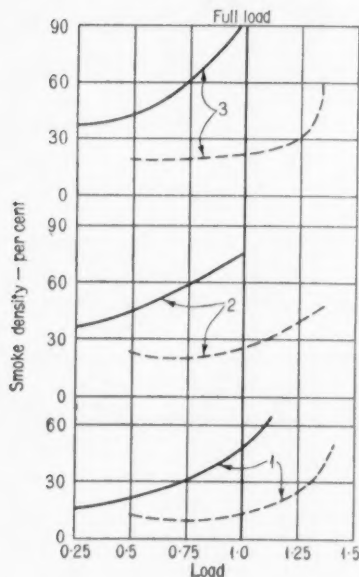

Fig. 4b. Petter engine run under the same conditions as in Fig. 4a
2. With alcohol induction, the engine could be overloaded to about 45 per cent and 40 per cent respectively with Grade A and Grade B fuels. Under overload conditions the smoke density was no more than that at full load with neat diesel oil. When running on neat furnace oil, however, it was found that the engine could be loaded only to 50 per cent for passable smoke density, Fig. 4b.
3. A direct inference from result (2) was that the air utilization factor was higher with alcohol induction, as compared with normal running conditions.